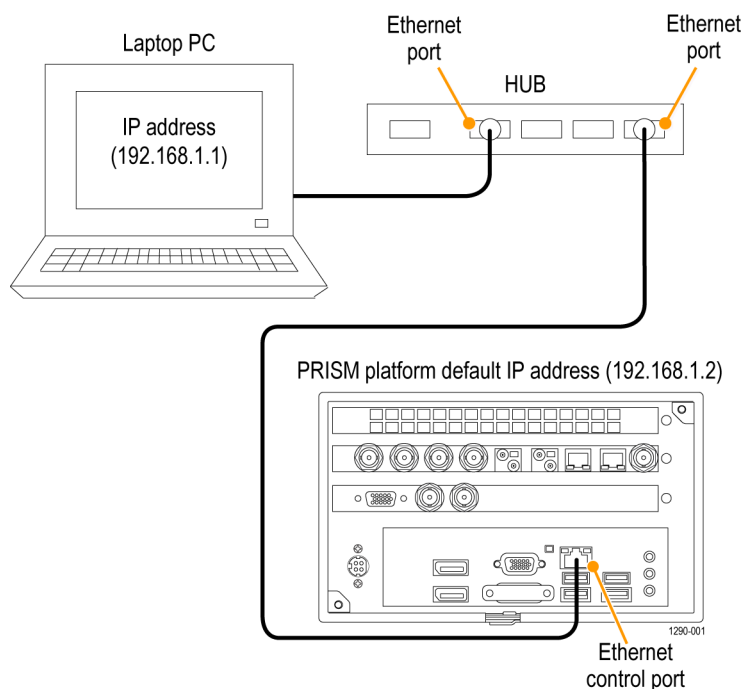

Figure 12: Connecting the instrument to a PC (MPI monitor shown)
1. Connect the instrument directly to a PC with an Ethernet cable. You can also use an Ethernet Switch. (See Figure 12.)